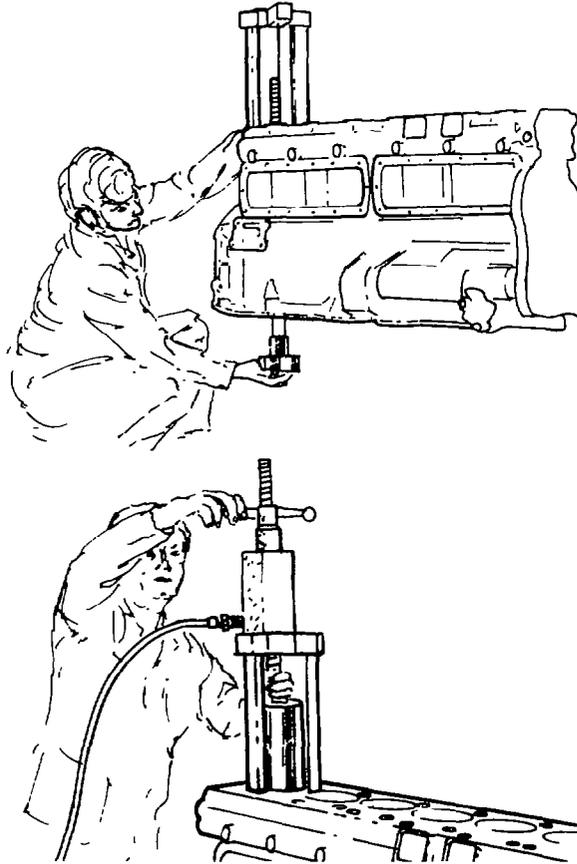

Fig. 55 — Removing Cylinder Liners
- y. Use tool J-25065 to remove the cylinder liners from the engine block (see fig. 55).